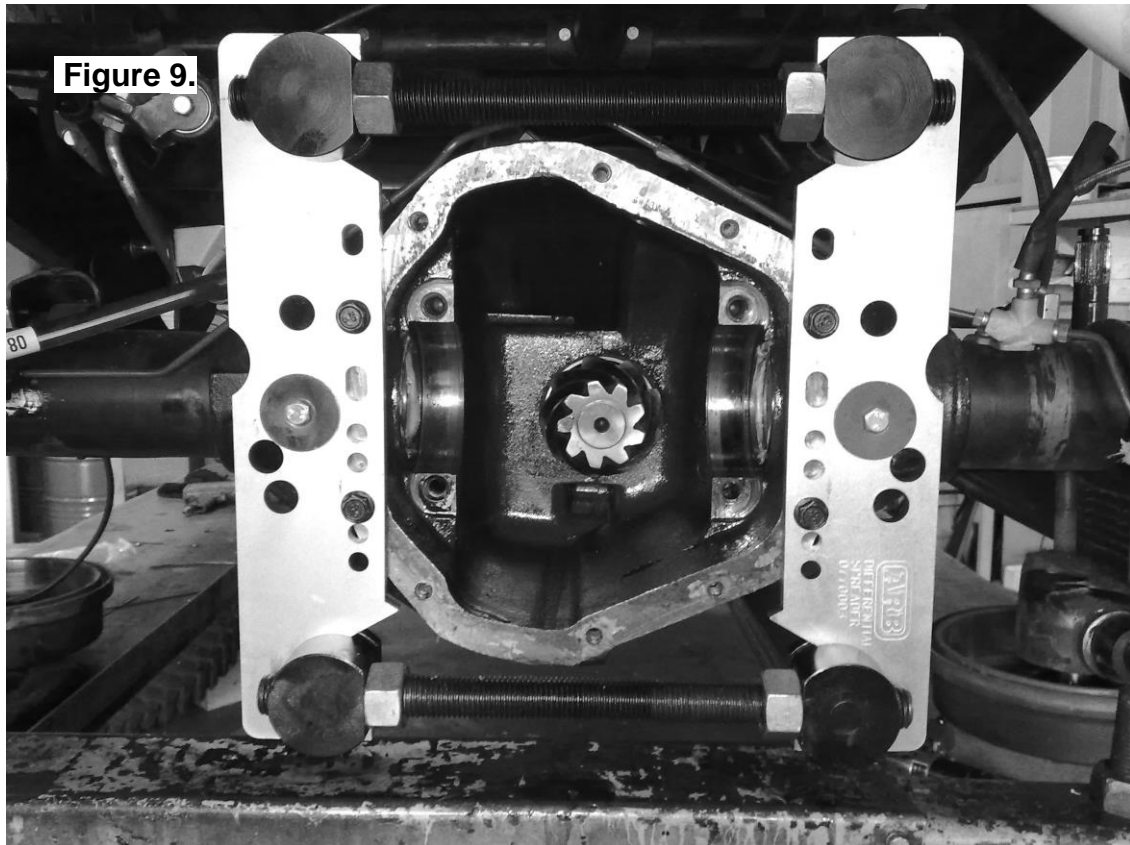

Figure 9.
- Set up a spreader and a dial indicator as shown in Fig 9.
- Carefully spread the housing (Fig 9.) just enough to install the differential carrier (Refer to your vehicle's service manual).